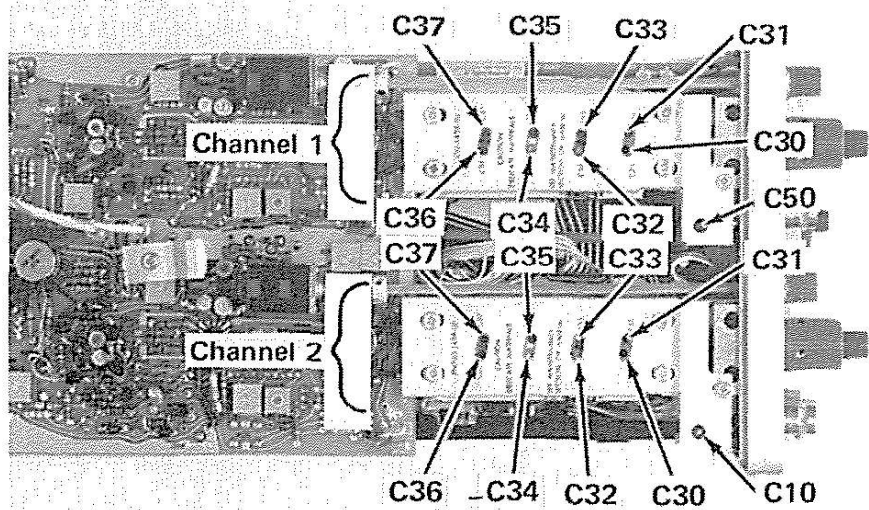

Fig. 5-19. Location of VOLTS/DIV Compensation adjustments.
- d. ADJUST—C50 (see Fig. 5-19) with a low-capacitance screwdriver for best flat-top waveform.
- i. ADJUST—Channel 1's C36 and C37 (see Fig. 5-19) with a low-capacitance screwdriver, for best corner and flat-top waveform.
- n. ADJUST—Channel 1's C34 and C35 (see Fig. 5-19) with a low-capacitance screwdriver, for best corner and flat-top waveform.